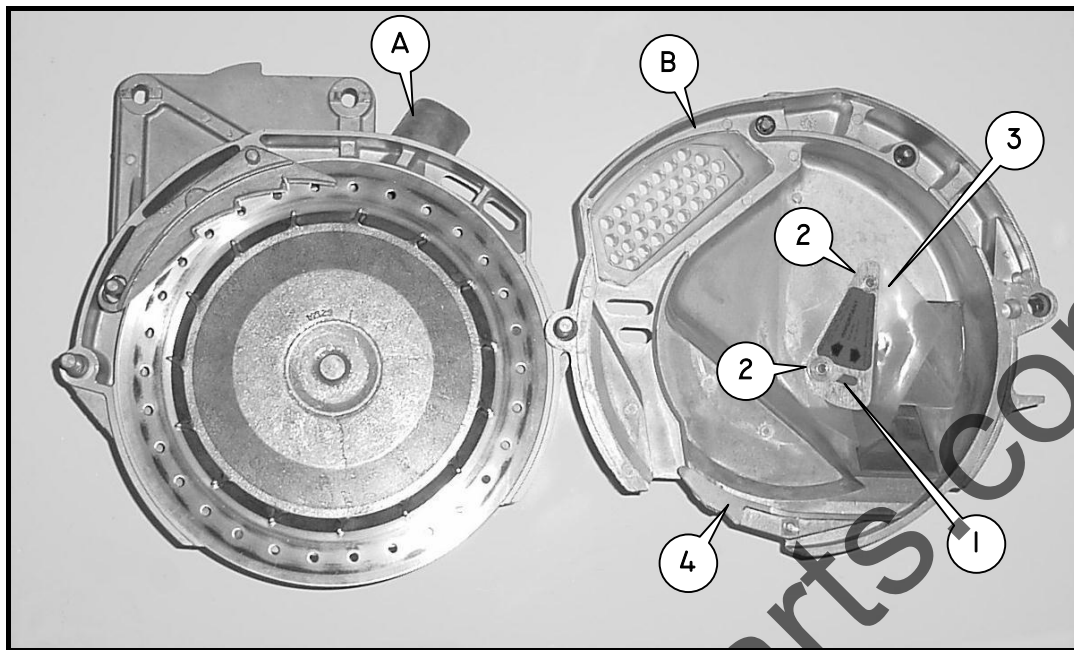

Fig.35
2.Low position (fig.35) : For small seeds such as sunflower, beet, sorghum, etc.